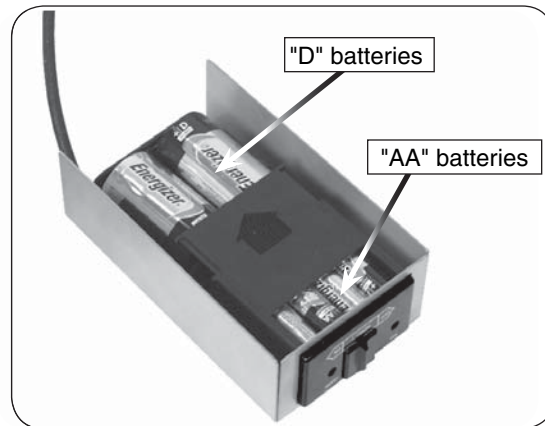

Fig. 12-1 Remote receiver box batteries
To access the batteries, locate the remote receiver box and turn it over. The exposed "D" battery pack is for electronic ignition. Replace the old batteries with (2) new "D" batteries. (See Fig. 12-1.)
Slide open the lid on the remote receiver to expose the batteries. Replace the old batteries with (4) new "AA" batteries. (See Fig. 12-1.) Replace the lid.